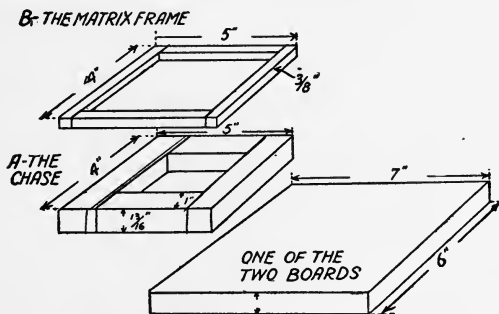

FIG. 74. THE MATRIX FRAME, CHASE AND BOARDS FOR MAKING RUBBER STAMPS
**How to Make Rubber Stamps.**—*The Materials Needed.*—To make rubber stamps you will need (1) one or more fonts of type; (2) a composing stick if you intend setting up more than one line; (3) a frame called a chase, 4 x 5 inches on the sides made of a strip of wood 1 inch wide and  $1\frac{3}{16}$  inch high, which is the height of type from its feet to its shoulder; (4) another frame, called the *matrix frame*, made of a strip of wood 1 inch wide,  $\frac{3}{8}$  inch thick and 4 x 5 inches on the sides. These two frames are shown at A and B in Fig. 74. (5) Two smooth boards 1 inch thick, 6 inches wide and 7 inches long; (6) a tooth-